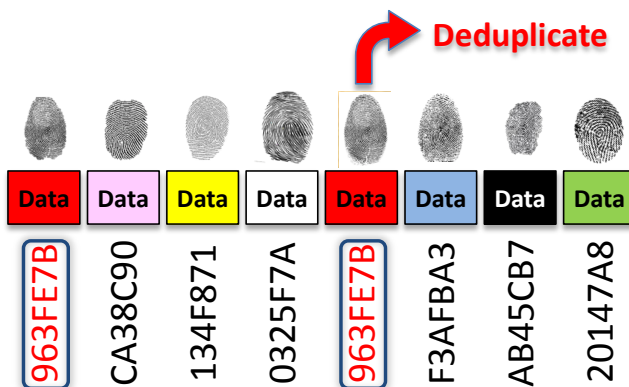

Figure 6. Deduplicating the Existing/Repeated Block
- If a data block already exists in the system, it is not written, as shown in Figure 6.